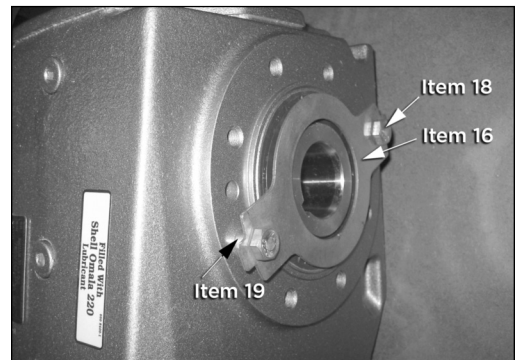

Figure 3
5. With the tabs of the cover mounting clip (item 16) parallel to the length of the gearmotor, secure it in place onto the gear reducer with the two cap screws (item 18) and spacers (item 19, only used for Nord gearmotor). See Figure 3.